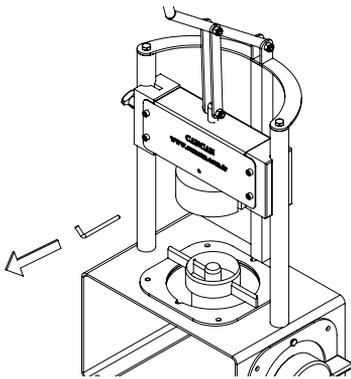
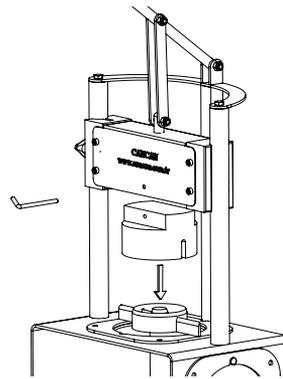

Figure 7
Figure 8
- In order to release the push wedge it will sufficient to pull the push wedge down to the vertical axis (**Figure 8**) by pulling the push wedge pin to yourself (**Figure 7**).